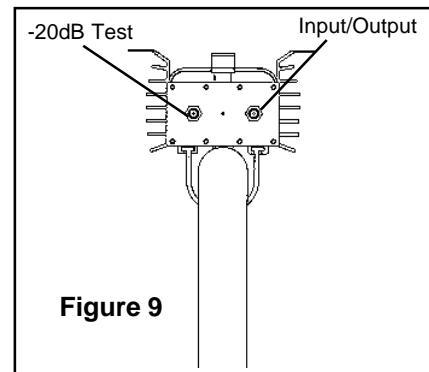

Figure 9
11. Connect the download cable to the input/output on the Transverter. (See Figure 9.)